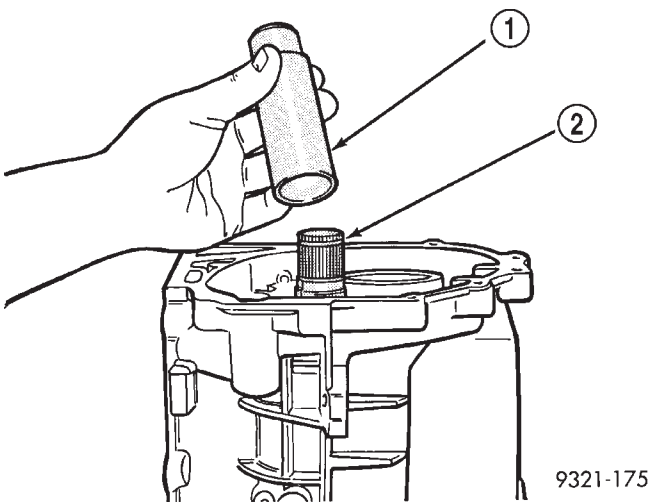

Fig. 413 Seal Protector Installation
(35) Install transfer shaft seal protector (special tool 6592) (Fig. 413). Apply thin film of gear oil to protector.